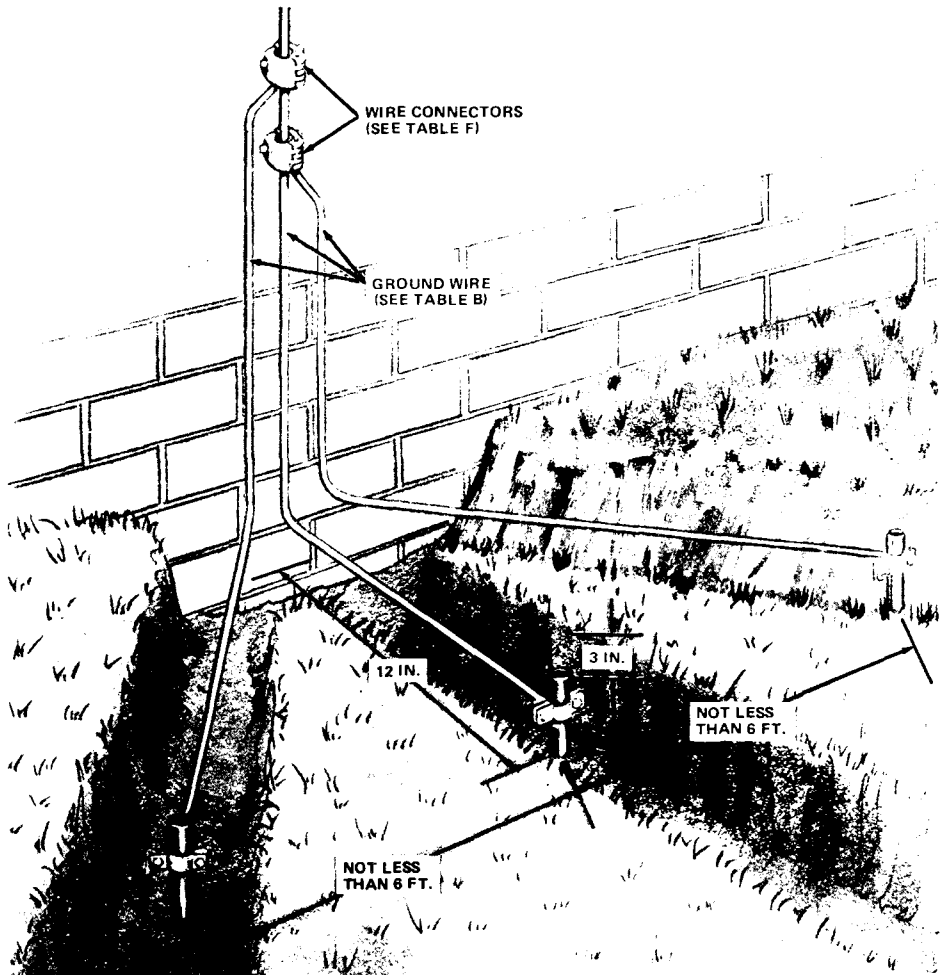

Fig. 61—Three Ground Rods
- (a) If a power ground rod is not available, install a ground rod for each protector. Bond all protectors together. Select wire connectors from Table F. No more than three ground rods need be placed. Space ground rods at least 6 feet apart (Fig. 61).
9.07 Multiple station protectors, such as the 116 or 117 type, should not be connected to a single telephone ground rod unless the rod is bonded to the power system ground rod. If a power system ground rod is not available, a multiple station protector may be connected to an array of three telephone ground rods, spaced at least 6 feet apart, and bonded together with No. 6 ground wire (Fig. 61).